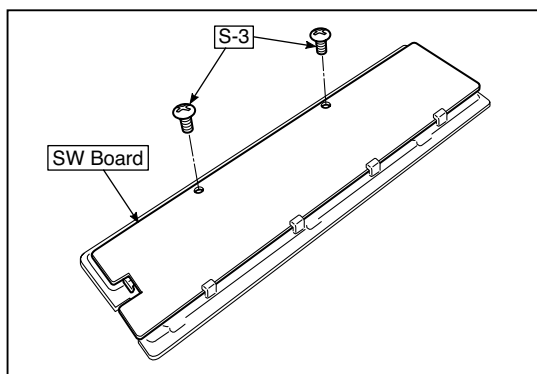

Fig.17
- Remove the "S-3" screws shown in the figure 17 and then remove the SW Board.